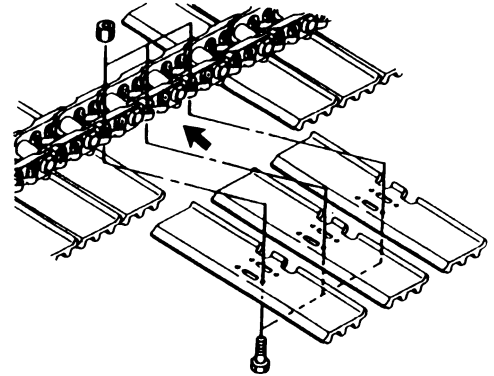

Fig 26.
- 8 Re-install the three shoe plates ⇒ Fig 26. (□ J-9),